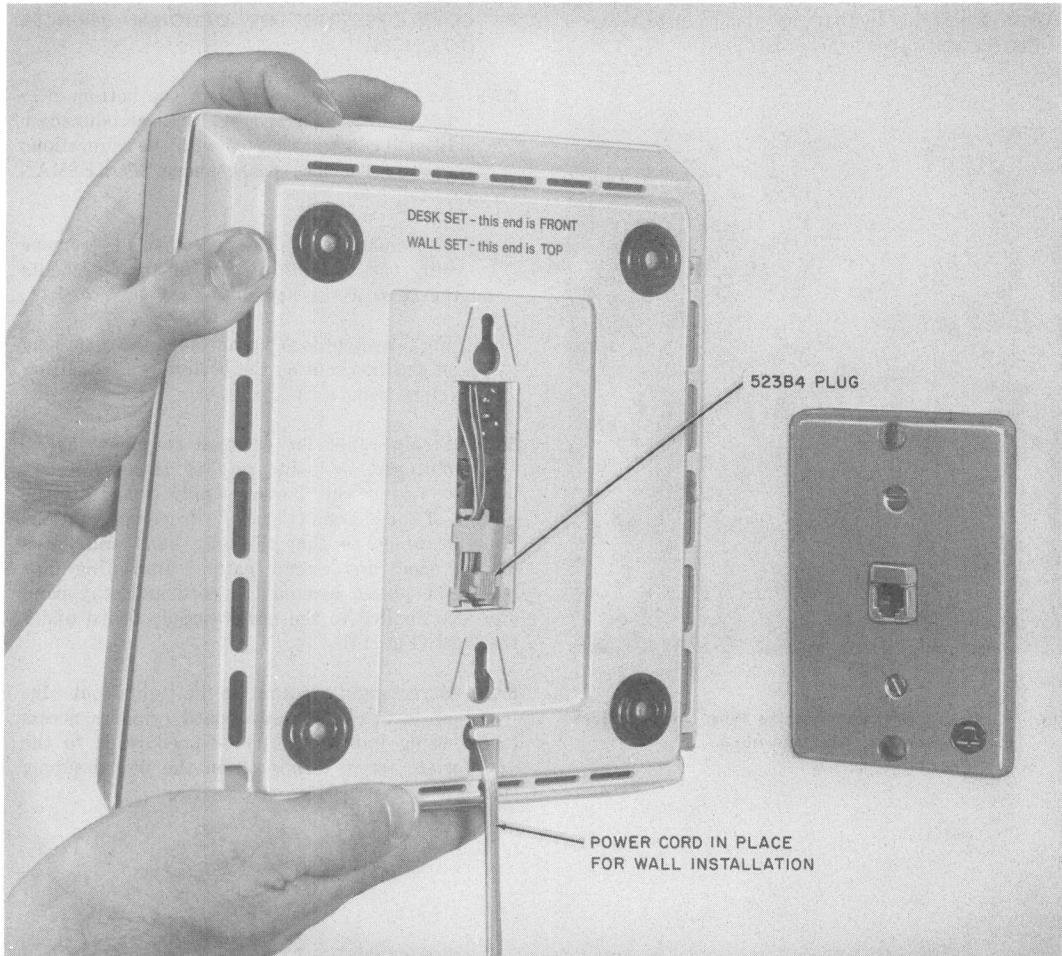

Fig. 12—960A01M Wall Set and 630A4 Connecting Block
- (4) Remove the 523B4 plug from its stored position and snap both sides of the plug into rectangular slot in the bottom of the lower housing. Snap plug in from the outside such that the word **TOP** is properly oriented in the housing (Fig. 12). The plug should slide freely in the slot.
- (5) Insert the other end of the 523B4 plug into the jack position designated **PHONE** on the power supply board.
- (6) Insert the power cord up through the cord opening below the plastic retainer tab in the bottom of the lower housing (Fig. 12).
- (8) Place the lower housing on the chassis according to the instructions on the bottom (Fig. 12), and engage the four captive screws.
- (9) Remove the station number card retainer and station number card from the upper housing.
- (10) Disengage the captive screw from the chassis and lift out the concealed handset hook and screw from the cavity in the upper housing.
- (11) Completely remove the captive screw from one side of the handset hook and insert it into the other side.
- (13) Replace the station number card and card retainer.
- (14) The converted wall set is intended to plug into and secure to a 630A4 connecting block (Fig. 12 and 16B).